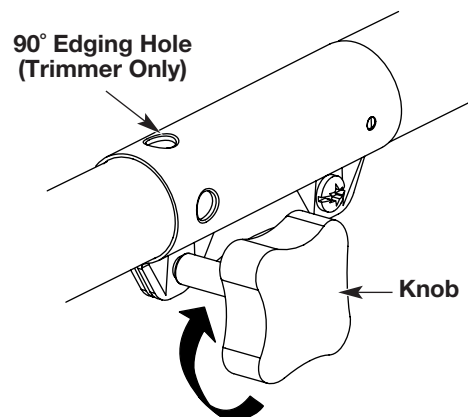

Fig. 25
- Turn the knob clockwise to tighten (Fig. 25).
For edging (when using the line head cutting attachment with EZ-Link™ models), lock the release button of the cutting attachment into the **90° edging hole** (Fig. 25).
- Turn the knob counterclockwise to loosen (Fig. 25).
- Turn knob counterclockwise to loosen (Fig. 25).